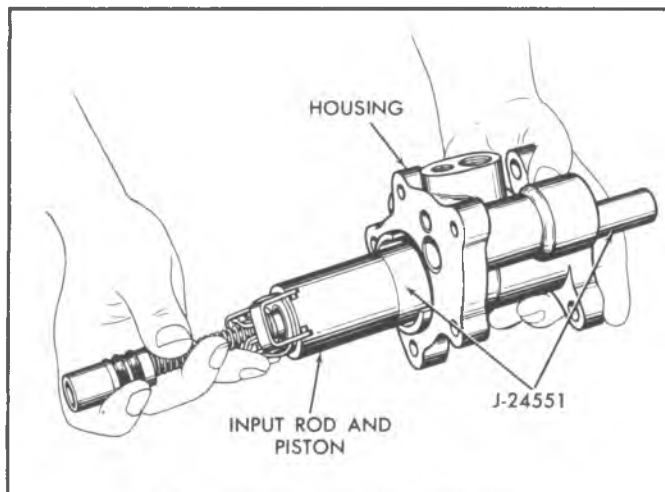

Fig. 9--Installing Input Rod and Piston Assembly into Booster (Typical)
6. Lubricate the piston and Piston Installing Tool J-24551 with clean power steering fluid. Insert the large end of the tool into the piston (fig. 9), and slide the tool and piston into the piston bore and through the piston seal.